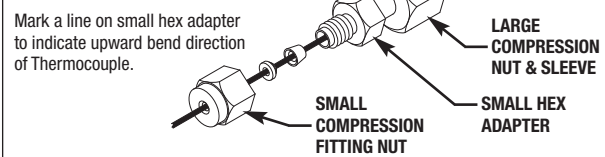

FIGURE 3
13. Reconnect the ribbon cables from the cover to the main PCB. For ease of testing use an Extension Test Cable (RPI Part #SCT026). **See Figure 3.**
10. Reconnect the ribbon cables from the cover to the main PC board. For ease of testing use an Extension Test Cable (RPI Part #SCT026). **See Figure 3 on the backside of this instruction.**